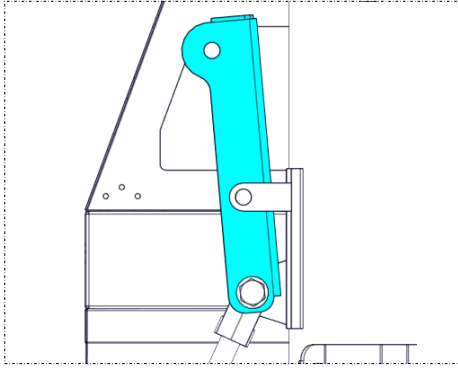

Figure 4.23
E) Hold the transport lock up along the discharge auger tube, lining up the holes in the middle of the transport lock with the tabs on the discharge auger tube (Figure 4.23).